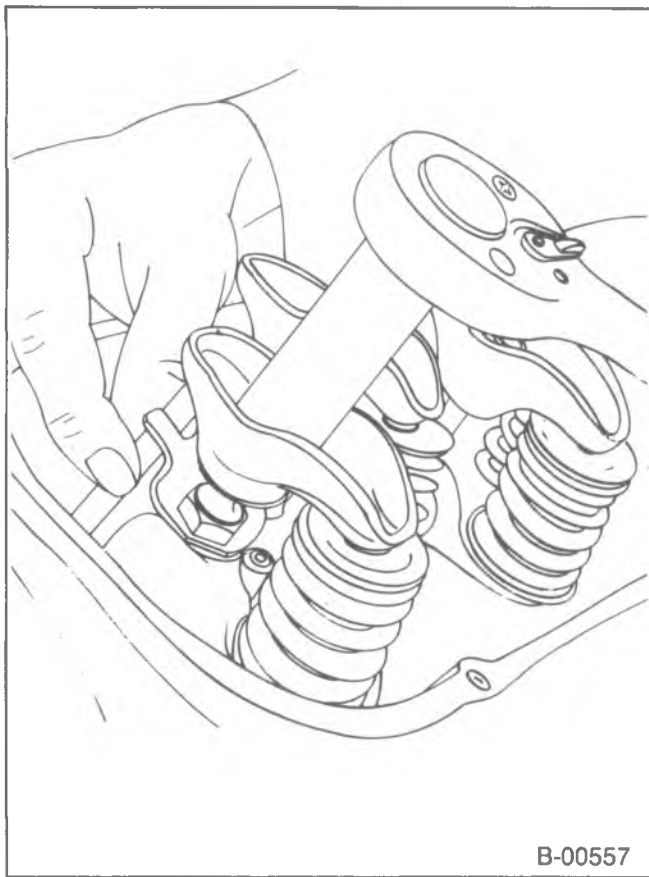

Figure 3—Adjusting the Valves
4. Back out the adjusting nut until lash is felt at the pushrod then turn in the adjusting nut until all lash is removed. This can be determined by rotating the pushrod while turning the adjusting nut (figure 3). When the play has been removed, turn the adjusting nut in three quarters ($\frac{3}{4}$) additional turn (to center the lifter plunger).